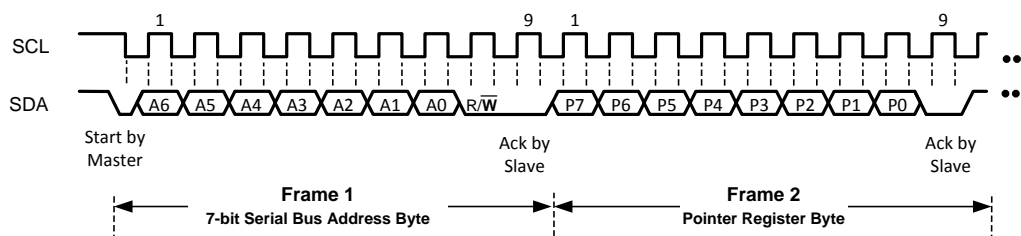

Figure 12. Trigger Humidity/Temperature Measurement
2. Trigger the measurements by executing a pointer write transaction with the address pointer set to 0x00. Refer to Figure 12.
2. Trigger the measurement by executing a pointer write transaction. Refer to Figure 12